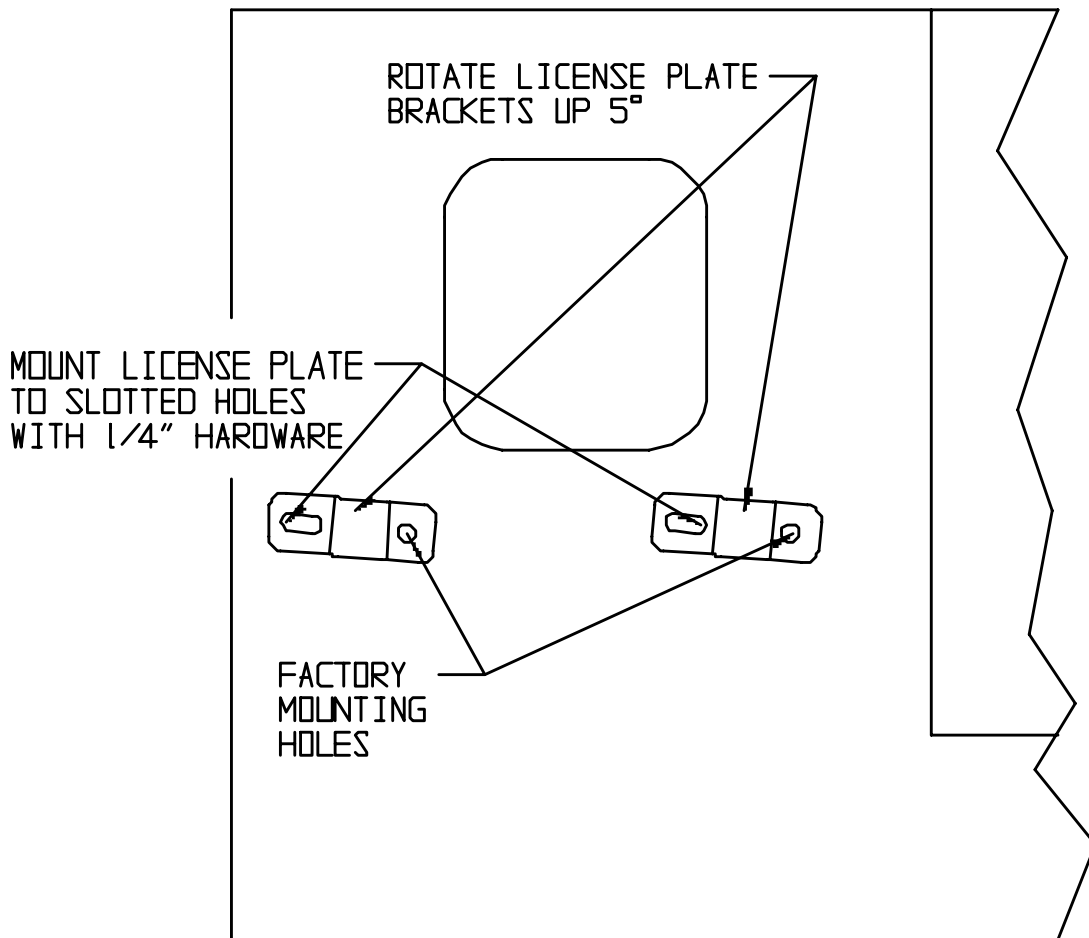

FIGURE 9, MOUNTING BRACKETS FOR LICENSE ON TJ MODELS ONLY
21. On TJ models, using the two supplied brackets, mount the brackets to the body with the factory screws. The end of the bracket with the standard hole is mounted to the body. The slotted holes are used for mounting the license plate. Align the two brackets so they are rotated up 5 degrees and going away from the tailgate. Tighten the factory screws. Using the 1/4" hardware provided, insert a bolt with flat washer through the license plate and the bracket and finger tighten with a lock washer and nut. Repeat this for both brackets. **See figure 9.**